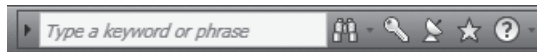

Figure 2.7
**Info Center** This is also new to the Revit 2010 interface. The Info Center toolbar (Figure 2.7) is located in the same zone as the title bar, to its far right.